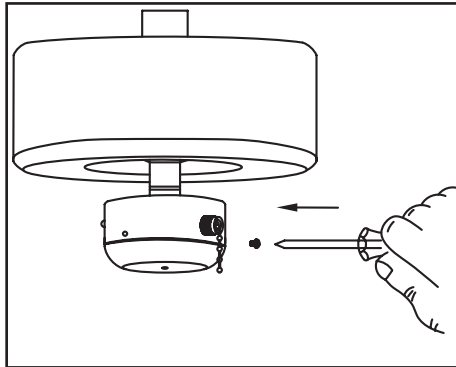

Figure 15b
4. Secure the switch cup cover with the three screws removed in step 1 (Figure 15b).